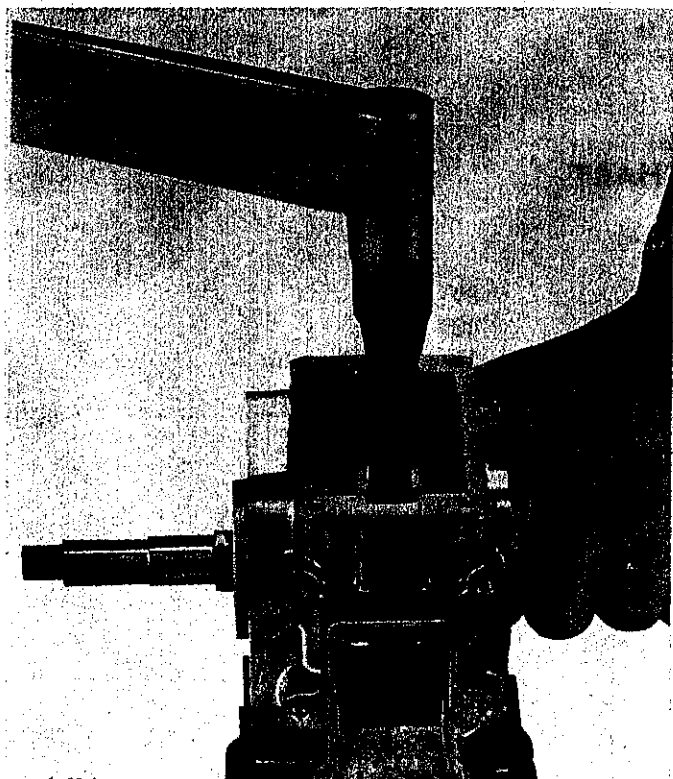

FIGURE 18. INSTALLING CONNECTING
39. Using T-1907 adapter and T-1582 hex bit with a torque wrench, tighten both rod cap screws as specified in the torque chart at the end of this section. See Fig. 18. Do not over-tighten.